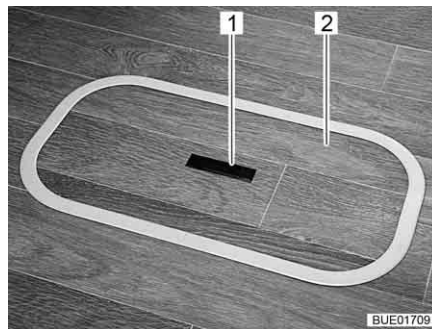
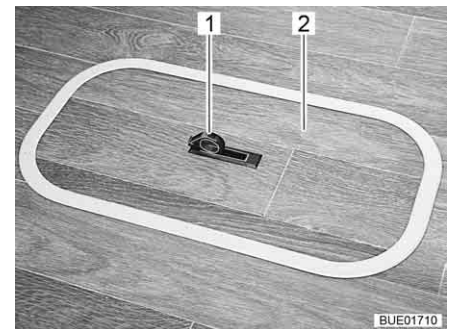

Fig. 61 Floor compartment cover (handle recessed)
Fig. 62 Floor compartment cover (handle swung out)
- Push one side of the grip plate (Fig. 61,1) downwards. The handle (Fig. 62,1) swivels upwards.
- Remove the cover (Fig. 61,2 or Fig. 62,2) upwards.